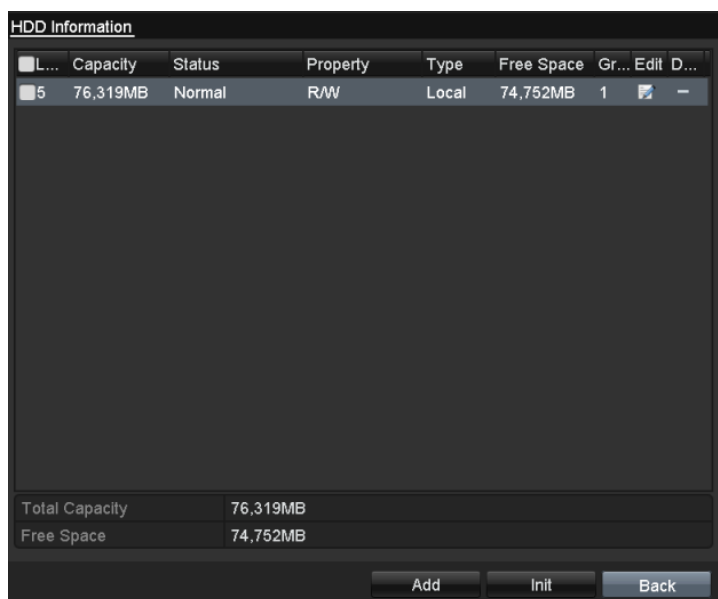

Figure 11. 21 View HDD Status (1)
2. Check the status of each HDD which is displayed on the list, as shown in Figure 11. 21.